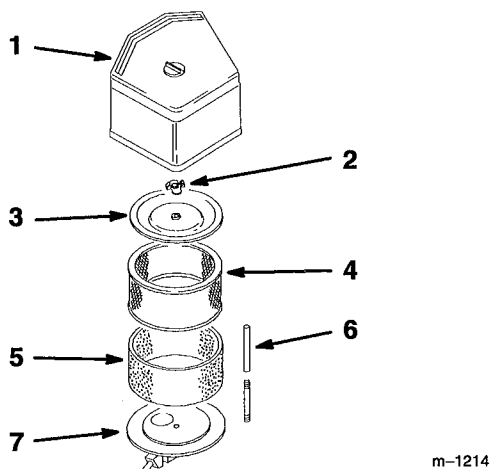

Figure 14
2. Clean around the air cleaner cover to prevent dirt from getting into the engine and causing damage (Fig. 14).
3. Carefully slide the foam element off the paper element (Fig. 14).
4. Unscrew the cover nut and remove the cover and paper element (Fig. 14).
1. Carefully slide the foam element onto the paper air cleaner element (Fig. 14).
2. Place the air cleaner assembly onto the air cleaner base (Fig. 14).
3. Install the air cleaner cover and secure with cover nuts (Fig. 14).